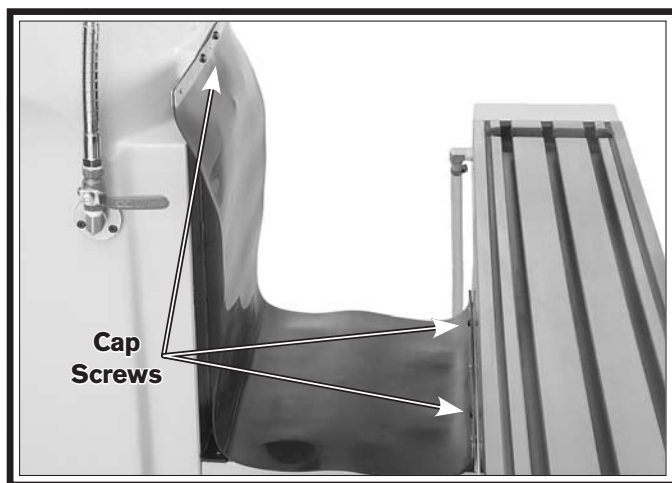

Figure 11. Rear way cover installed.
2. Remove the four button-head cap screws shown in **Figure 11** from the column and the rear of the table, position the rear way cover in place, then secure it with the removed cap screws.